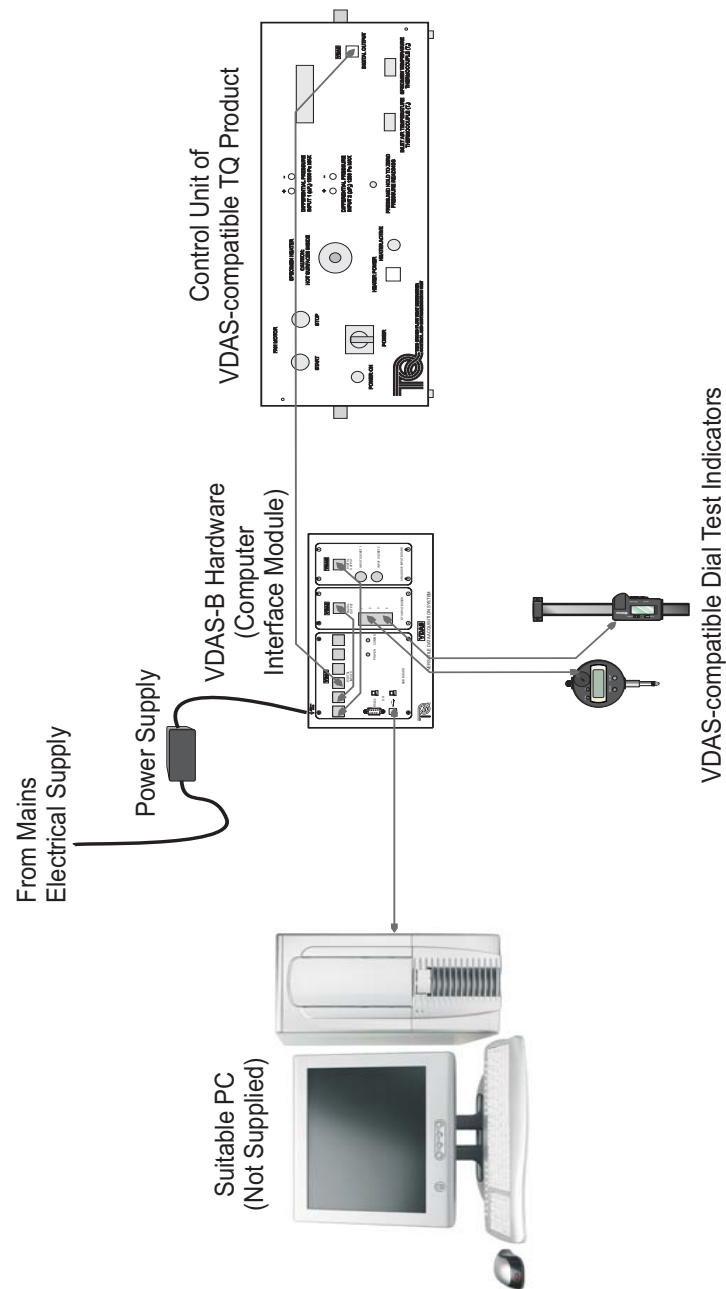

Figure 9 Typical System Connections for the VDAS-B
5. Figure 9 shows typical connections for the VDAS-B Hardware.